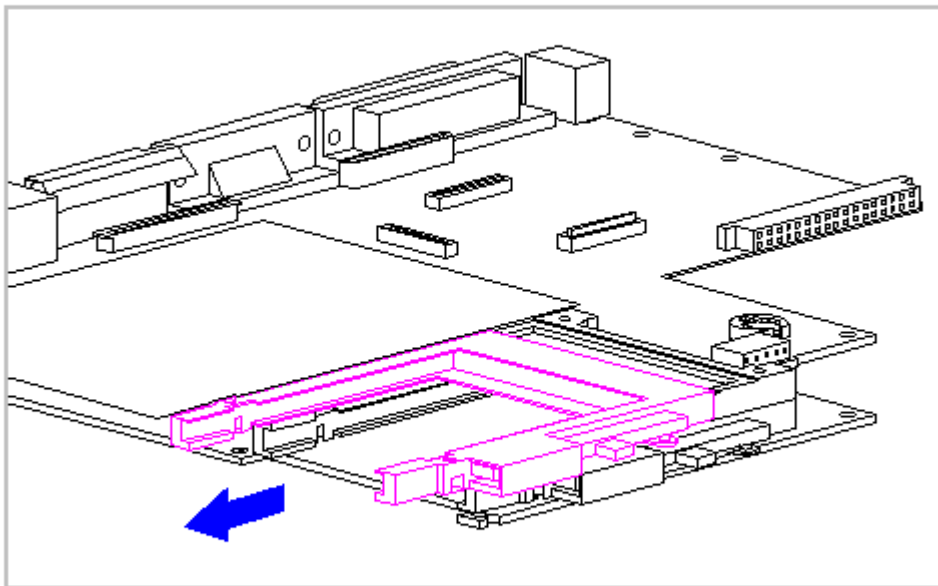

Figure 3-61. Removing the PC Card Rails from the Header (All Models)
2. Slide the rails out of the header (Figure 3-61).